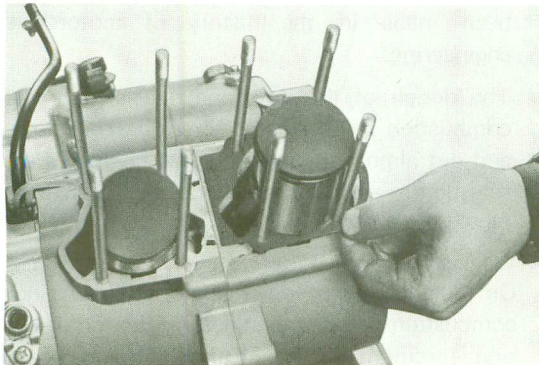

Fig. 4-3-8
- a. Always use new cylinder gaskets when overhauling the engine. (Fig. 4-3-8)